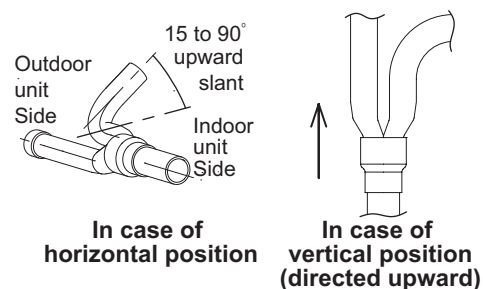

Fig. 2-269
- The distribution joint can be either horizontal or vertical. (Fig. 2-269)